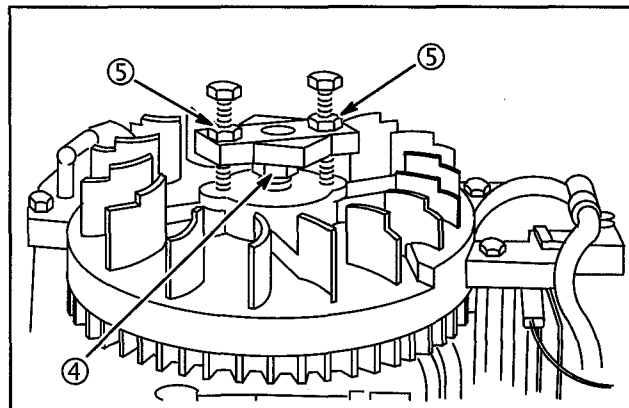

Fig. 17
Turn puller screws into flywheel puller holes until screws bottom or puller contacts flywheel nut (4) Fig. 17.